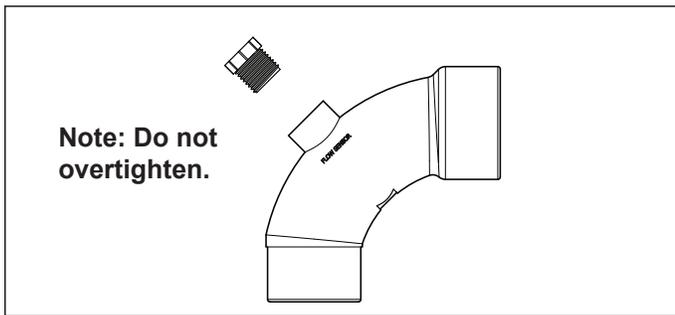

Figure 7. Sweep Elbow
- 5.1 The CV model filter comes with a Jandy Pro Sweep Elbow for this purpose. The sweep elbow also includes a threaded port and plug so that a ½" hose bib can be connected for pressure testing. See Figure 7.